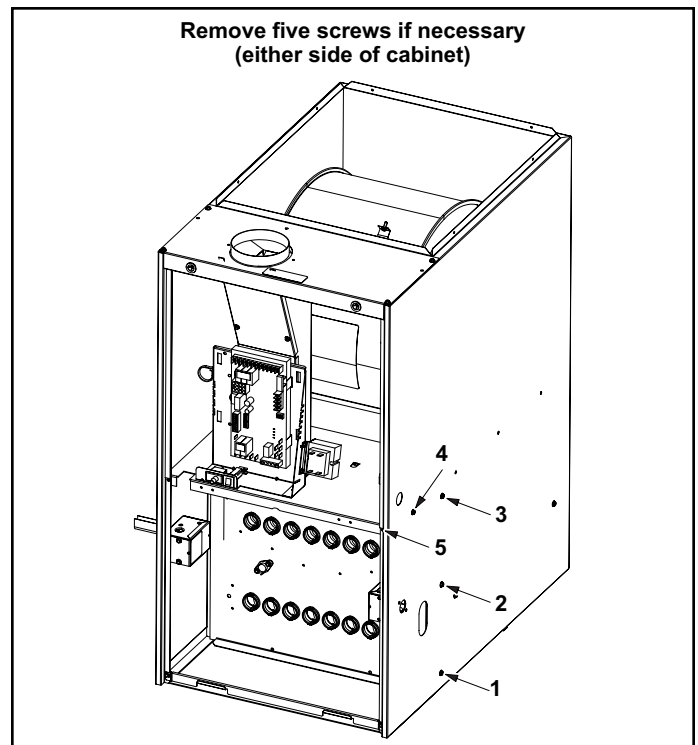

Figure 19.
8. Remove heat exchanger. It may be necessary to spread cabinet side to allow more room. If so, remove five screws from the left side or right side of cabinet. See Figure 19.